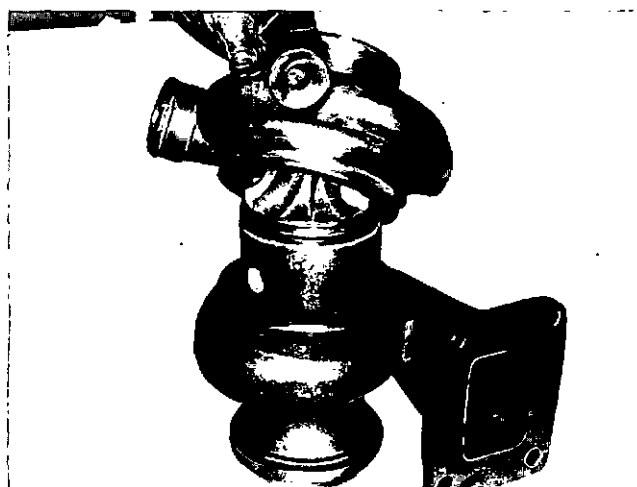

Fig. 2-2, (T359). Removing the compressor housing from the bearing housing
4. Remove the compressor housing from the bearing housing. Discard the O-ring, Fig. 2-2.